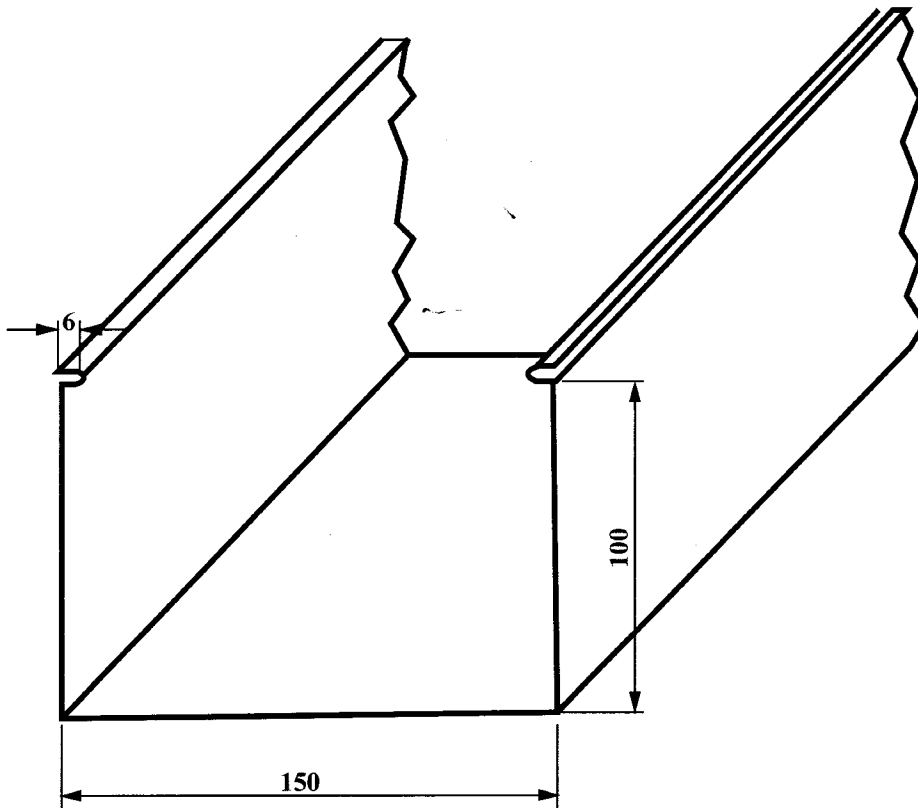

Figure 5. Air-conditioning duct
5. Figure 5 shows a pictorial view of a section of a sheet metal air-conditioning duct to be constructed using folded corners to join the sides to a folded cover.